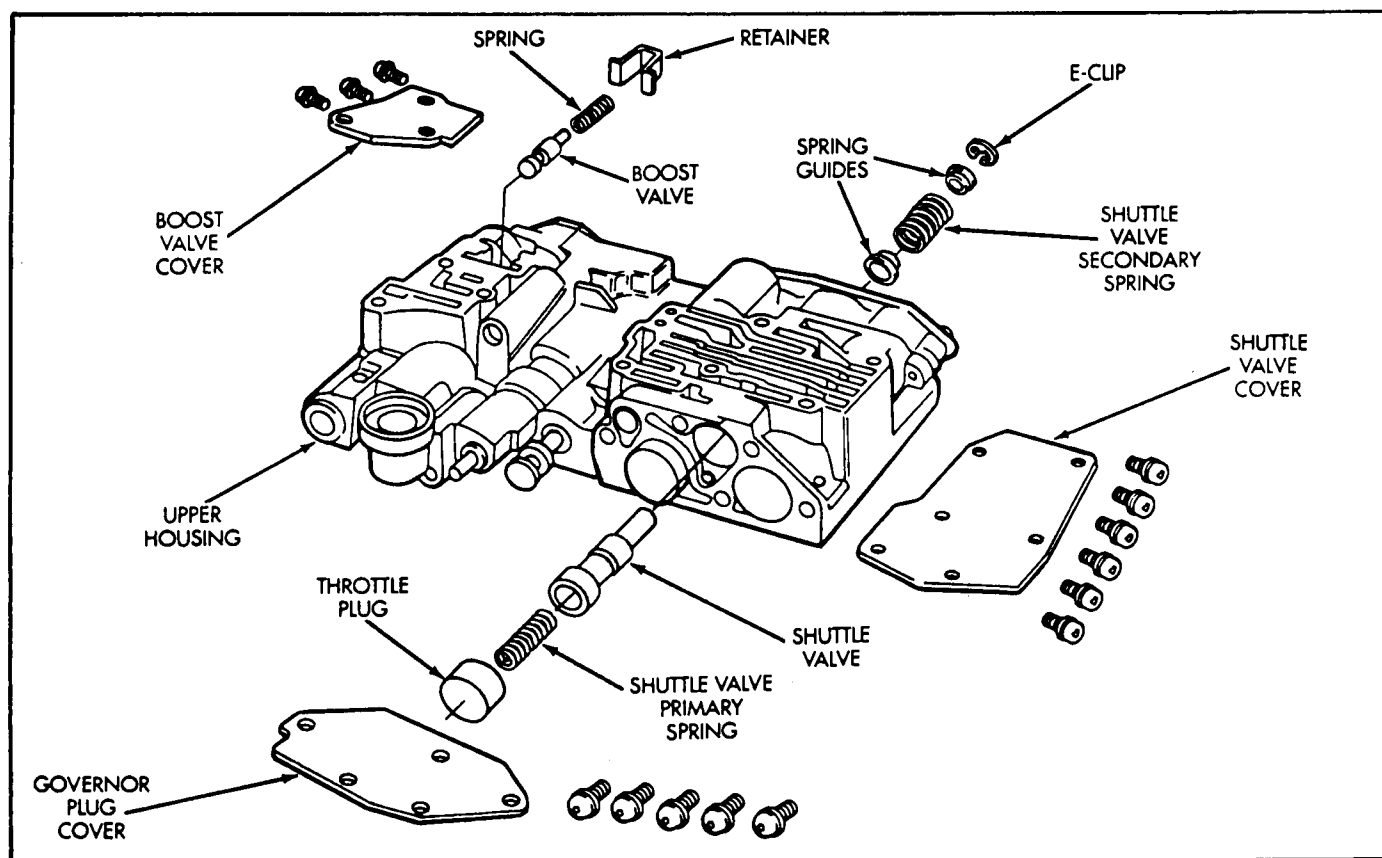

Figure 89
10. Turn upper valve body housing over and position as shown in Figure 89.
11. Insert the plastic guides in each end of shuttle valve secondary spring and install spring on the end of valve as shown in Figure 89.
12. Install the assembly into bore of the upper housing (See Figures 89 and 90).
14. Install the shuttle valve cover and install the six retaining screws, shown in Figure 89.
16. Install the boost valve, boost valve spring, and retainer, as shown Figure 89.
17. Install the boost valve cover plate as shown in Figure 89, and torque three screws to 35 in.lbs.
20. Install the shuttle valve primary spring and throttle plug, as shown Figure 89.